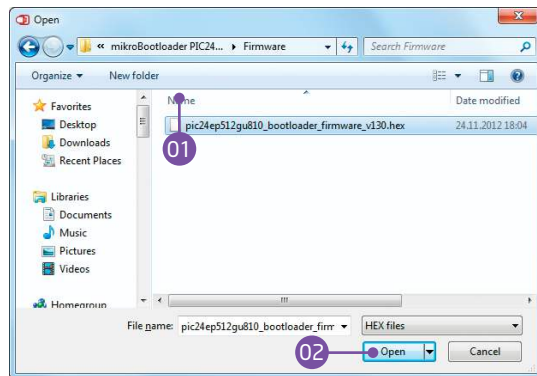

Figure 3-4: Selecting HEX
- 01 Click the **Browse for HEX** button and from a pop-up window (Figure 3.4) choose the .HEX file which will be uploaded to MCU memory.